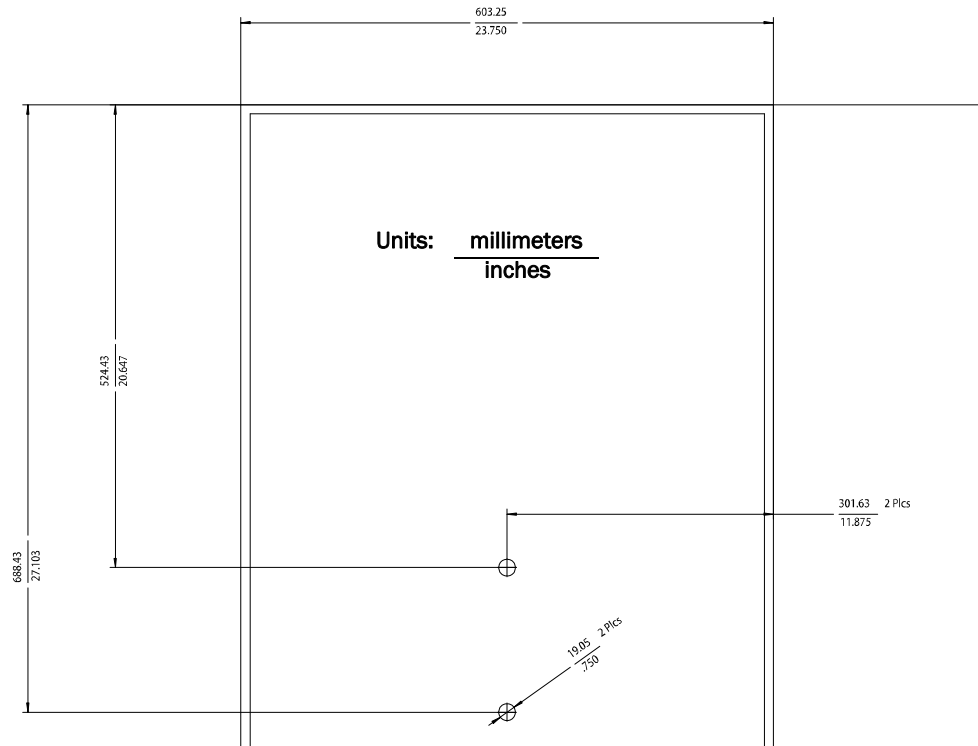
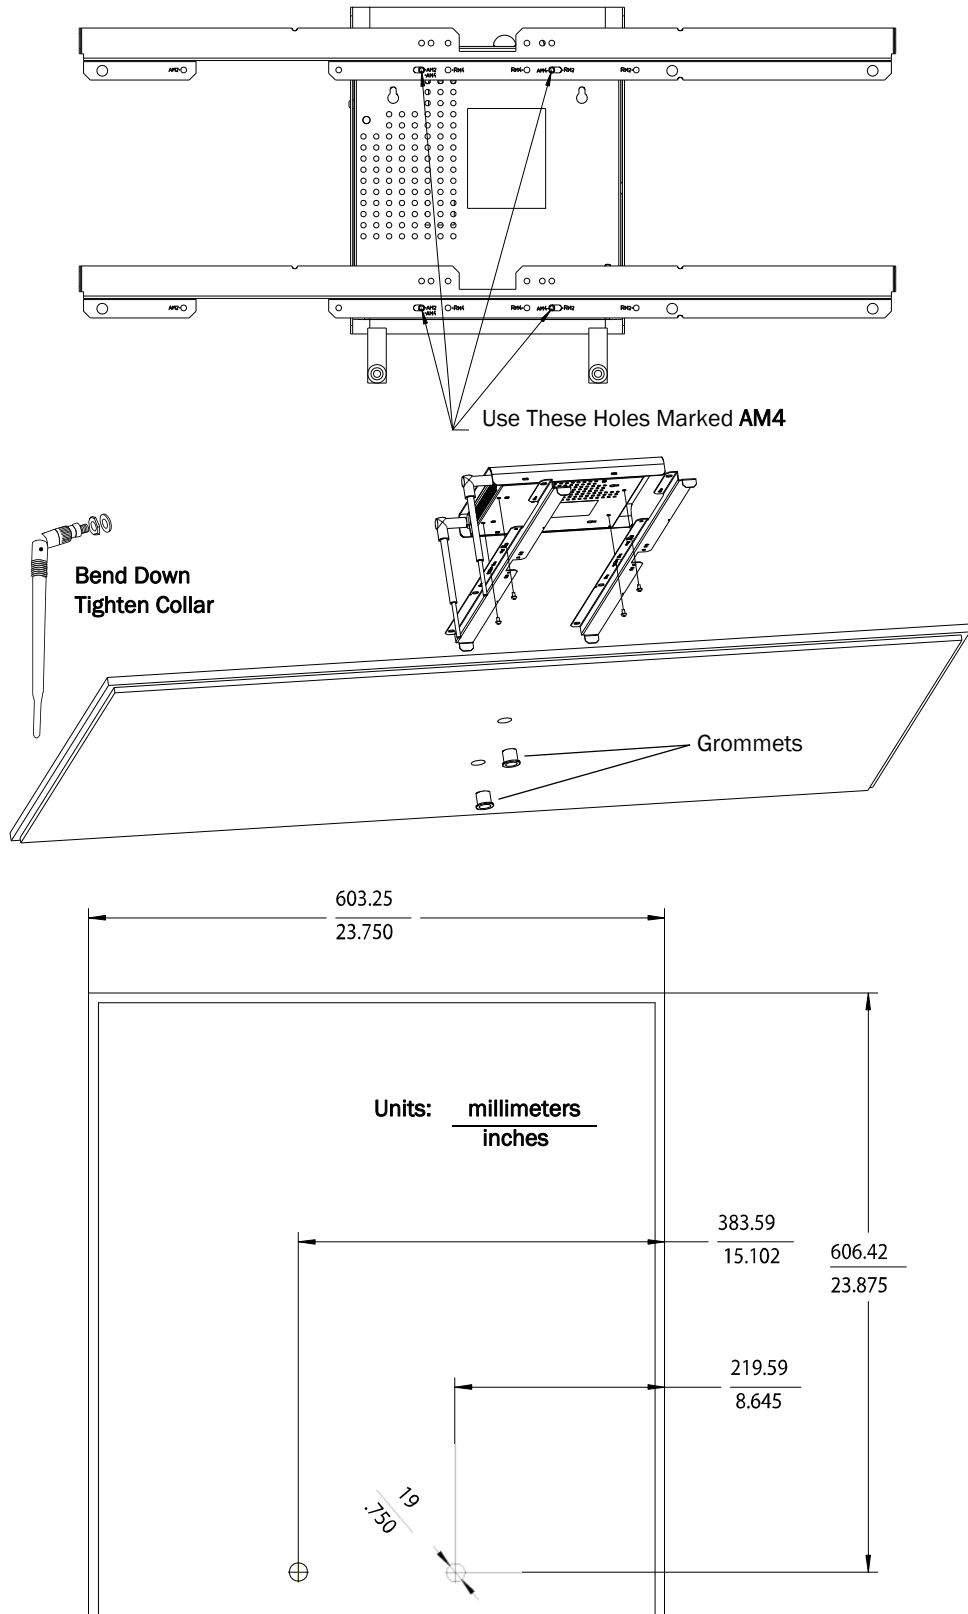

Figure 2-8: Possible Above the Ceiling Core AP Mounting Position
Figure 2-9: Alternative Above the Ceiling Core AP Mounting Position
The Core AP chassis can be rotated 90 degrees to the mounting rails. Choose the best placement of the Core AP to facilitate where the antennas will go through the ceiling tile. Note that there are additional holes in the mounting rails to allow for tethering to other permanent structures where local building codes require this type of installation. Refer to Figure 2-8 or Figure 2-9 for the dimensions used to locate the antenna holes in the tile.
6. Secure the mounting rails to the AP. Insert the four (4) M3 x 0.5 (8 mm LG) screws into the Core AP mounting rail holes, and into the mating holes in the back of the Core AP as shown in Figure 2-8 or Figure 2-9. Torque-tighten each shoulder screw to 8-inch lbs.